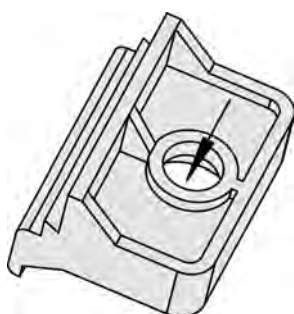

Fig. 10: Insert screws in clamps
3. ➤ Insert the four clamping screws into the clamp inserts from the shown side (Fig. 10; opposite the nut insert) until they are almost flush. Do not completely insert the screws into the clamp inserts.